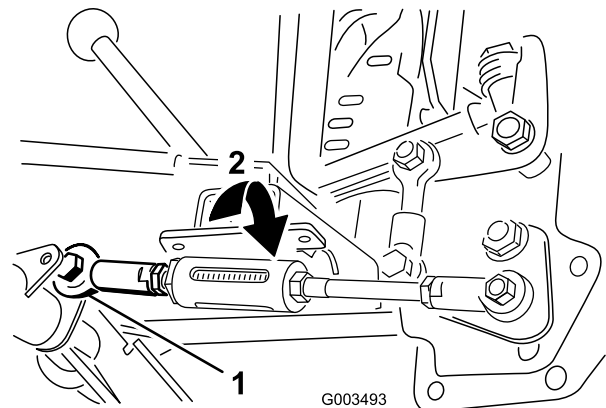

Figure 19
- A. Remove the bolt and nut that secures the rod to the pivot tube (Figure 19).
3. Tighten the locknuts that secure the spring rod until 1/4 to 1/2 inch (6 mm to 13 mm) of the threads are showing to apply tension to the spring (Figure 19).